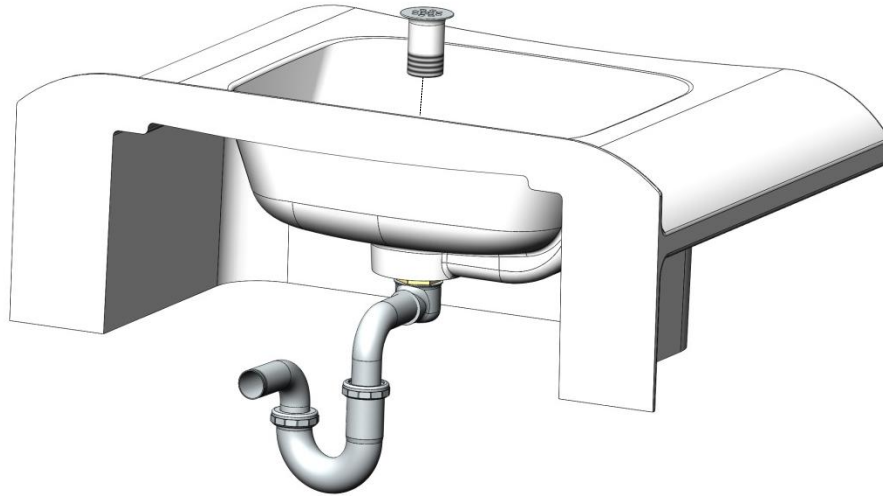

Figure 4
- a. Install the drain assembly according to figure 4